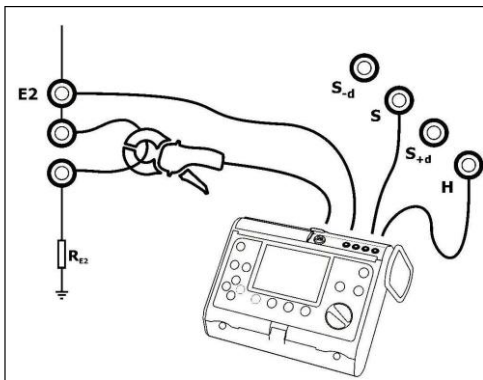

Fig. 10. Connection of the meter
- connect the earth resistance meter (MRU-XXX) to the sockets in accordance with Figure 10,